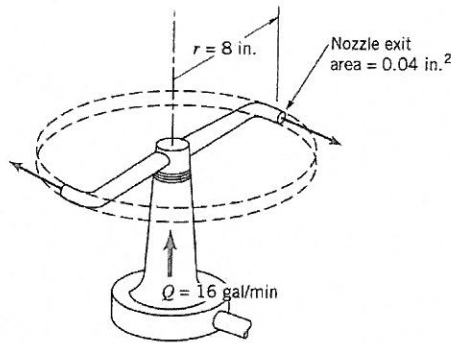

Figure P5.87
5.87  Water enters a rotating lawn sprinkler through its base at the steady rate of 16 gal/min as shown in Fig. P5.87. The exit rate of each of the two nozzles is 0.04 in.², and the flow leaving each nozzle is tangential. The radius from the axis of rotation to the centerline of each nozzle is 8 in. (a) Determine the resisting torque required to hold the sprinkler head stationary. (b) Determine the resisting torque associated with the sprinkler rotating with a constant speed of 500 rev/min. (c) Determine the angular velocity of the sprinkler if no resisting torque is applied.